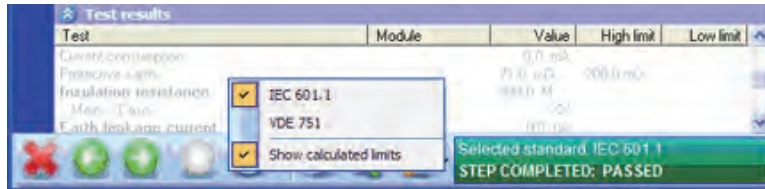

Figure 3-59. Standards Menu for Test Guide
- While the test is running, or when it has completed, right-click the list of test results to bring up the standards menu. To view limits for the VDE 751 standard, select **VDE 751** in the menu. Limit values are updated in the test results. When the test completes, the process bar disappears and the color of the status bar is updated to reflect the current status of the test as shown in Figure 3-59.